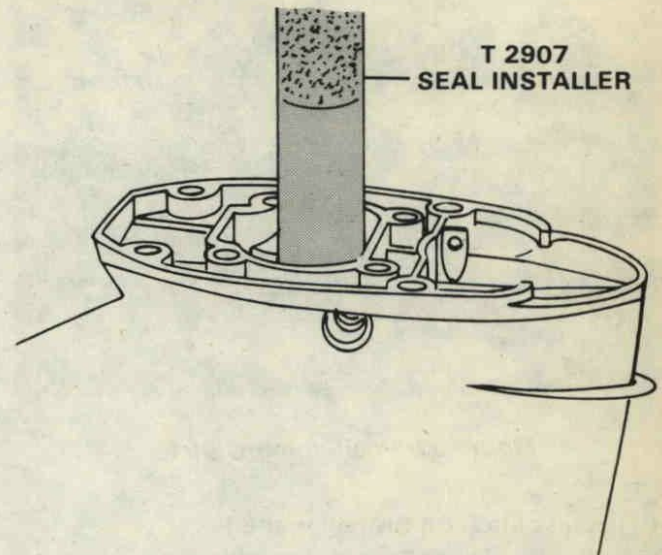

Figure 32. Installing Driveshaft Seal in Upper Gear Housing.
- D. Position seal and tool in bore of upper gear housing. Press seal in until it reaches bottom of bore. Figure 32.